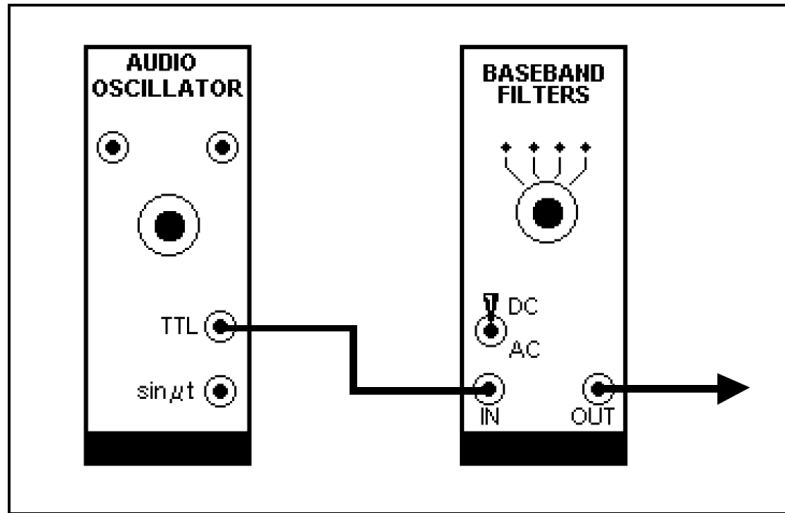

Figure 1: Task 1 — Channel step response
1. Connect the circuit shown in Figure 1. Using the AUDIO OSCILLATOR, set the frequency value to minimum, by turning the knob fully counter-clockwise. Using the SCOPE SELECTOR in the bottom row of TMS, connect the output in Figure 1 to the oscilloscope Channel X, and the output of the AUDIO OSCILLATOR to Channel Y. Adjust the time base to display no more than two transitions. On the BBCF, select Channel 3. Observe the channel response to a single transition (you can use scope trigger and other time base controls to display a LO to HI transition). When the response to a step excitation is settled, it yields the step response.